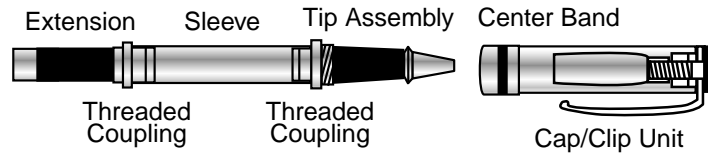

figure 1 - "Classic" cap on back
- 2) For our "Classic" pens, and our "Traditional" styles (Figures 1 & 2) with the cap on the back, unscrew the extension piece and continue with step 4 below.